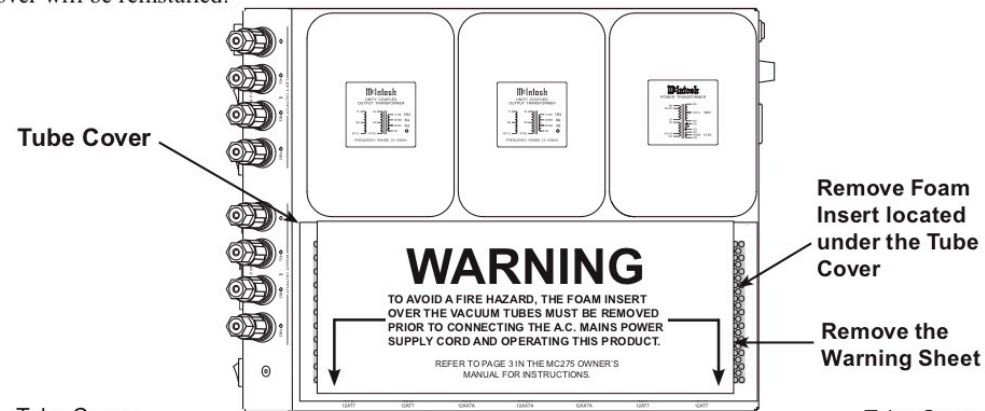

Figure 1
1. Orient the MC275 so the Front is facing you and remove the Warning Sheet. Refer to figure 1.